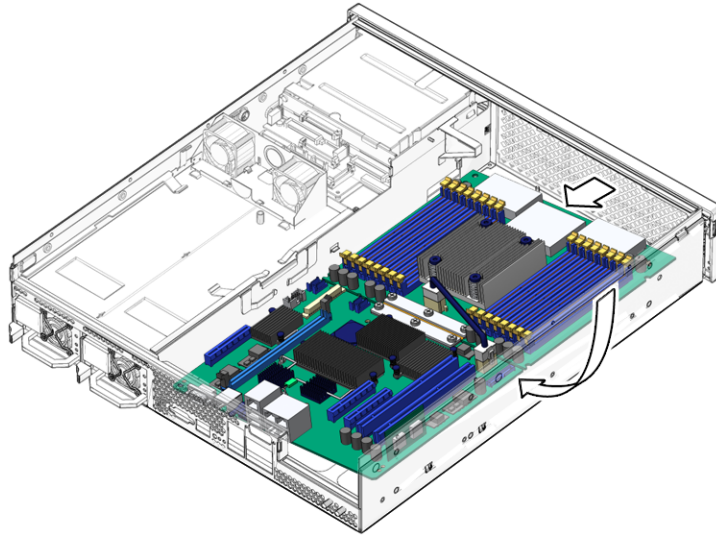

FIGURE 4-26 Installing the Motherboard Assembly Into the Chassis
2. Lower the left edge of the motherboard assembly into the chassis, then the entire board, and while slightly elevated, slide the motherboard assembly to the back of the chassis (FIGURE 4-26).